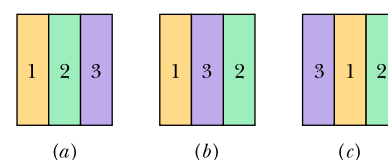

Figure 18.3 Question 6.
**6** Figure 18.3 shows three different arrangements of materials 1, 2, and 3 to form a wall. The thermal conductivities are  $k_1 > k_2 > k_3$ .